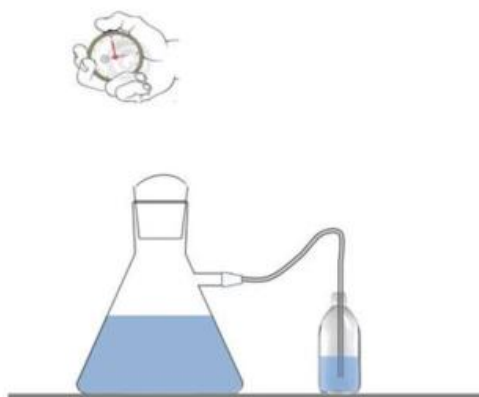

Figure 5
F.1.1. After 10 min of time elapsing of the reactivation stage, take out the latex tube from the graduated cylinder and immerse it into the saturated  $\text{Ca}(\text{OH})_2$  solution (ID # VI) as shown in Figure 5.